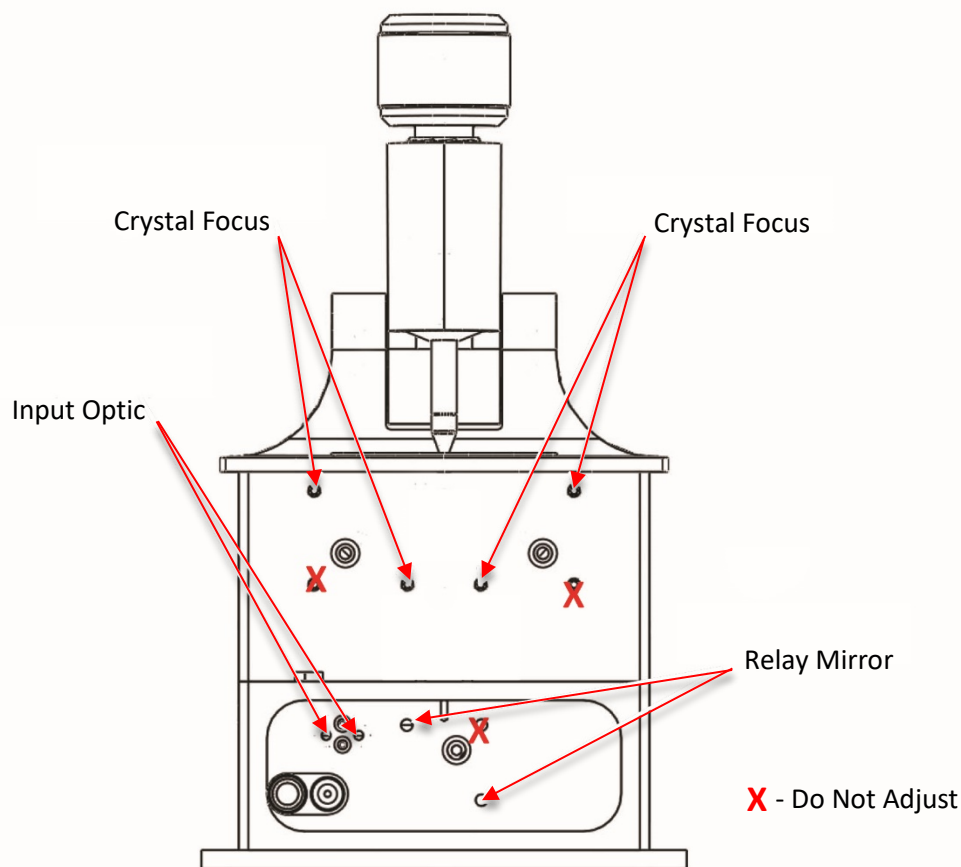

Figure 8. Schematic of the GladiATR showing the location of the focusing optic dial and alignment adjustment optics
2. Display the live interferogram of the FTIR spectrometer and adjust the input optic, the crystal focus mirror, and the relay mirror. The locations of these mirrors are shown in Figure 8. Turn the individual screws one at a time slightly clockwise and check the signal. If it increases, continue until the maximum signal is obtained. If it decreases, turn the screw counterclockwise to get the highest possible reading. Follow the order shown in the alignment image, first adjusting the input optic screw to obtain the maximum signal, then go to the 2 sets of crystal focus screws and optimize the interferogram signal.